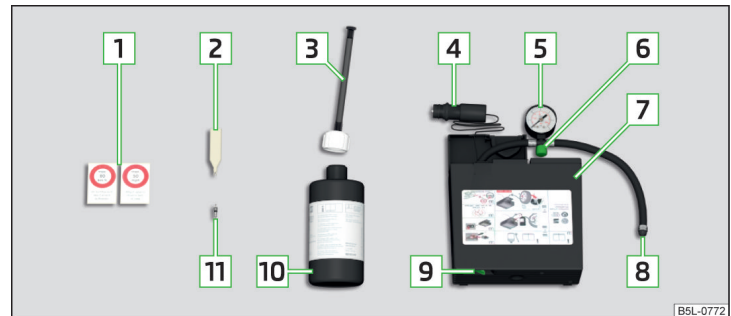

Fig. 177 Description of the breakdown kit
- Insert the valve remover  » *Fig. 177 on page 159* on the valve insert, so that the valve insert fits into the slot of the valve remover.
- Forcefully shake bottle  » *Fig. 177 on page 159* several times.
- Screw the tyre inflation hose  » *Fig. 177 on page 159* firmly onto the tyre valve.
- Stick the sticker  » *Fig. 177 on page 159* on the dashboard in the driver's field of view.